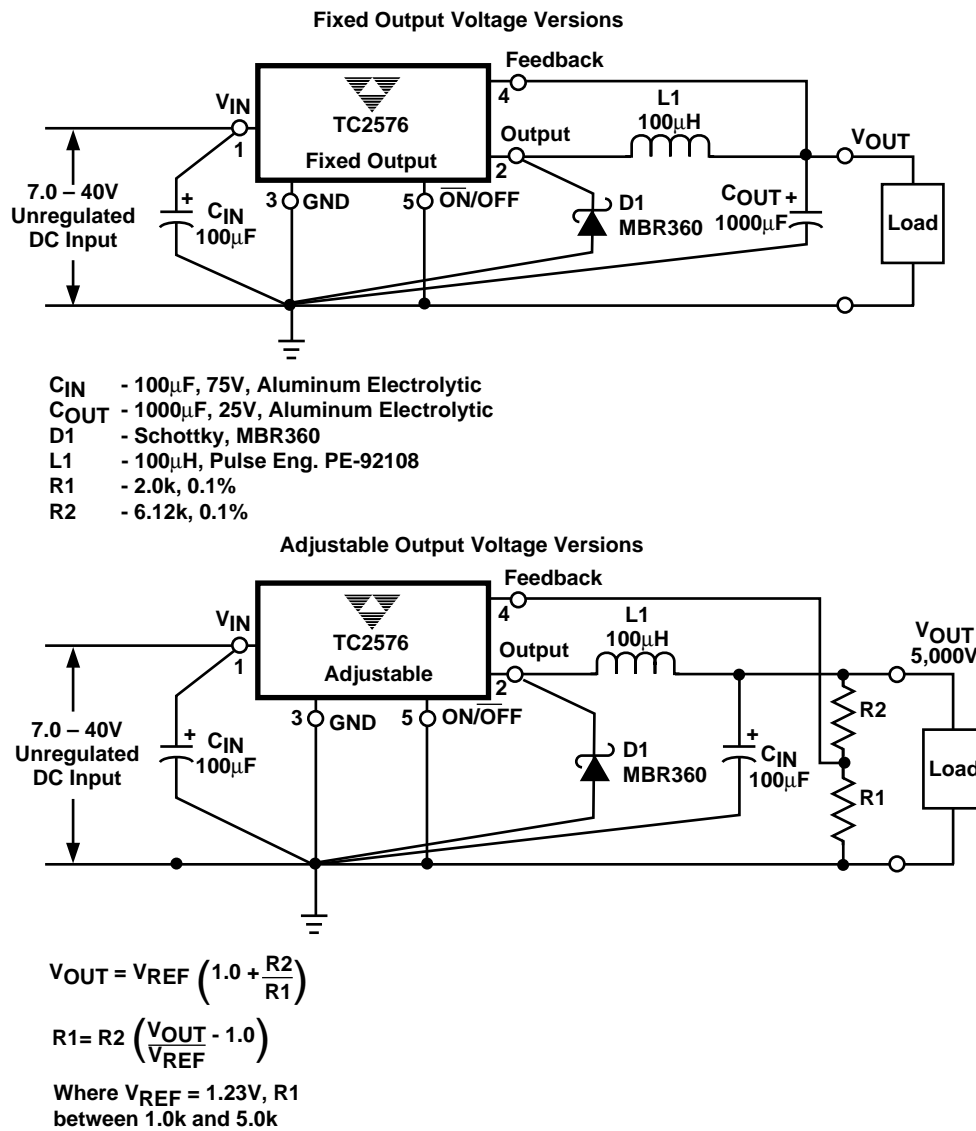

Figure 2. Typical Test Circuit
TC2576-3.3 [(Note 1) Test Circuit Figure 2]
TC2576-5 [(Note 1) Test Circuit Figure 2]
TC2576-12 [(Note 1) Test Circuit Figure 2]
TC2576-Adjustable Version [(Note 1) Test Circuit Figure 2]
- NOTES:** 1. External components such as the catch diode, inductor, input and output capacitors can affect the switching regulator system performance. When the TC2576 is used as shown in the Figure 2 test circuit, the system performance will be as shown in the system parameters section of the Electrical Characteristics.
As in any switching regulator, the layout of the printed circuit board is very important. Rapidly switching currents associated with wiring inductance, stray capacitance and parasitic inductance of the printed circuit board traces can generate voltage transients which can generate electromagnetic interferences (EMI) and affect the desired operation. As indicated in the Figure 2, to minimize inductance and ground loops, the length of the leads indicated by heavy lines should be kept as short as possible.
1. Programming Output Voltage To select the right programming resistor R1 and R2 value (see Figure 2) use the following formula: $V_{OUT} = V_{REF} \left(1.0 + \frac{R2}{R1} \right) \text{ where } V_{REF} = 1.23V$ Resistor R1 can be between 1.0k Ω and 5.0k Ω . (For best temperature coefficient and stability with time, use 1% metal film resistors). $R2 = R1 \left(\frac{V_{OUT}}{V_{REF}} - 1.0 \right)$	1. Programming Output Voltage (selecting R1 and R2) Select R1 and R2 $V_{OUT} = 1.23 \left(1.0 + \frac{R2}{R1} \right) \text{ Select } R1 = 1.8k\Omega$ $R2 = R1 \left(\frac{V_{OUT}}{V_{REF}} - 1.0 \right) = 1.08k \left(\frac{8.0V}{1.23V} - 1.0 \right)$ $R1 = 9.91k\Omega$, choose a 9.88k Ω metal film resistor.